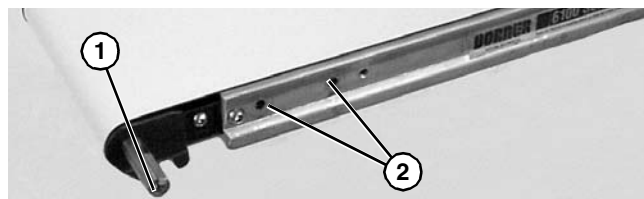

Figure 11
4. Locate drive output shaft (**Figure 11, item 1**) and remove two screws (**Figure 11, item 2**).